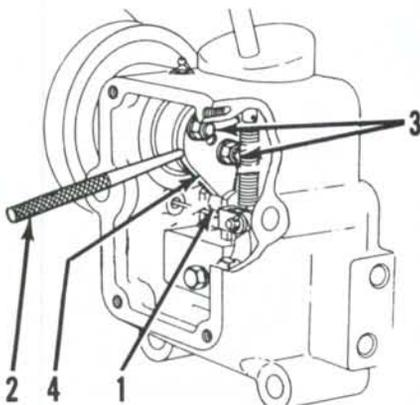
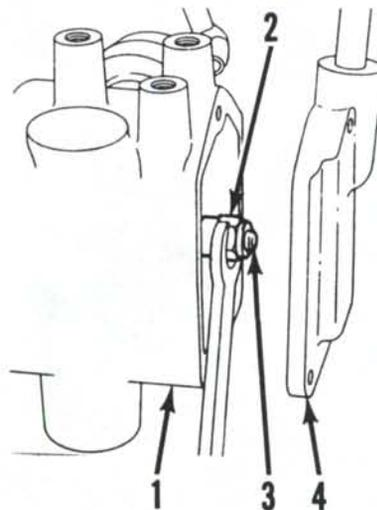
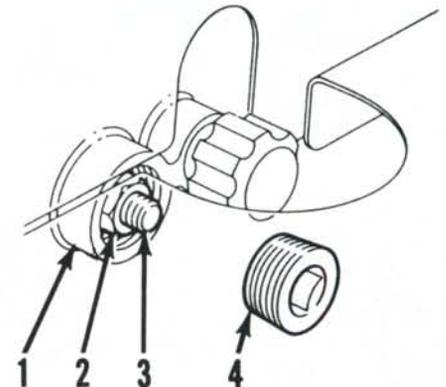

Fig. 243—View showing adjustment of rockshaft cam. Refer to paragraph 312.
Fig. 244—View showing location of locknut used to adjust connecting link on cab or platform equipped models.
Fig. 245—View showing location of locknut used to adjust connecting link on low profile models.
in SELECT position, then select POSITION CONTROL on selector dial. Move linkage control lever to RAISE position. Lift the lower links by hand to fully raised position, then engage lift latch if so equipped. If not equipped with lift latch, lower the linkage 40 mm (1½ inches), measured at outer end of lower link, and support in this position with a suitable stand. Remove cover from rear of right-hand rockshaft bracket. Loosen the two nuts (3—Fig. 243), insert a punch (2) into hole in rockshaft cam (4) and turn cam until roller (1) is seated in notch. Tighten the two nuts to secure adjustment.
#### 313. CONNECTING LINK ADJUSTMENT. Move selector dial to POSITION control setting. Remove cover (4—Fig. 244) from control housing on tractors equipped with cab or platform. (Control housing (1) is located on right-hand side of rear axle housing.) On models without cab or platform, remove plug (4—Fig. 245) from control housing cover. On all models, turn nut (2—Fig. 244 or 245) counterclockwise until it is even with end of connecting link (3). Remove cover from rear of right-hand rockshaft bracket. Move linkage control lever rearward to SELECT position and hold in this position. Raise lift arms by hand until roller (1—Fig. 243) is seated in notch in cam (4). Support lift arms in this position with a suitable stand. Place a 0.05 mm (0.002 inch) feeler gage between rocker lever (2—Fig. 246) and push rod (1). Then turn connecting link locknut (2—Fig. 244 or 245) clockwise until feeler gage is snug but can be moved between rocker lever and push rod.